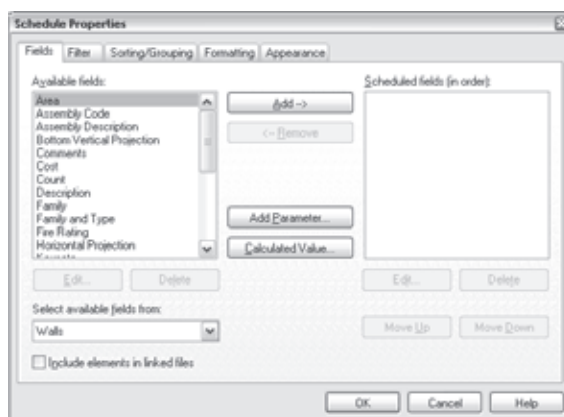

Figure 11.11
5. Select the fields to be scheduled (see Figure 11.11). The fields are parameters used by the category, and they all appear in the properties of the element being scheduled. Add a field by double-clicking the name of the field in the left pane or by selecting the field and clicking the Add button. Doing so moves the field from the left to the right column. Or, you can remove a field by selecting it in the right column and clicking Remove. Or, you can remove a field by selecting it in the right column and clicking Remove.